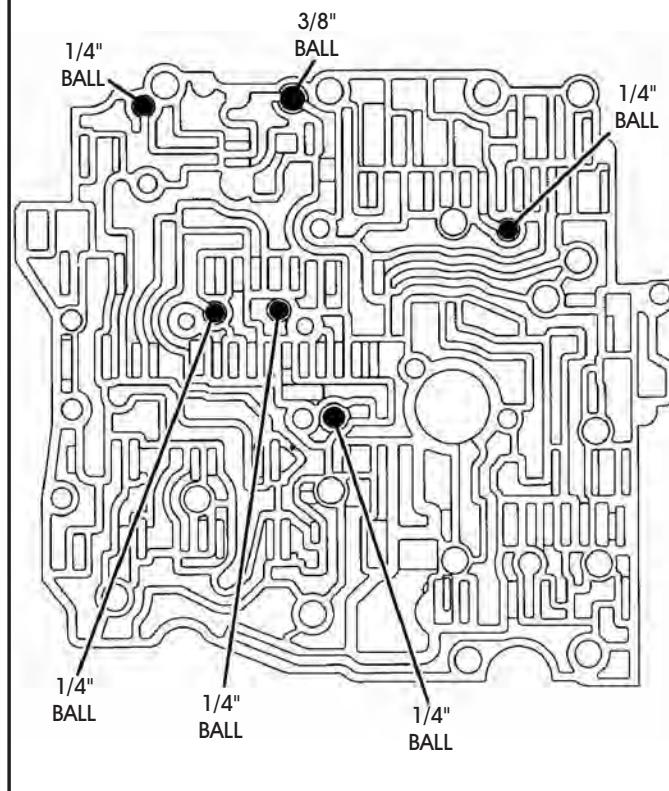

Figure 202
76. Ensure that the checkballs are still in the valve body in the locations shown in Figure 202.